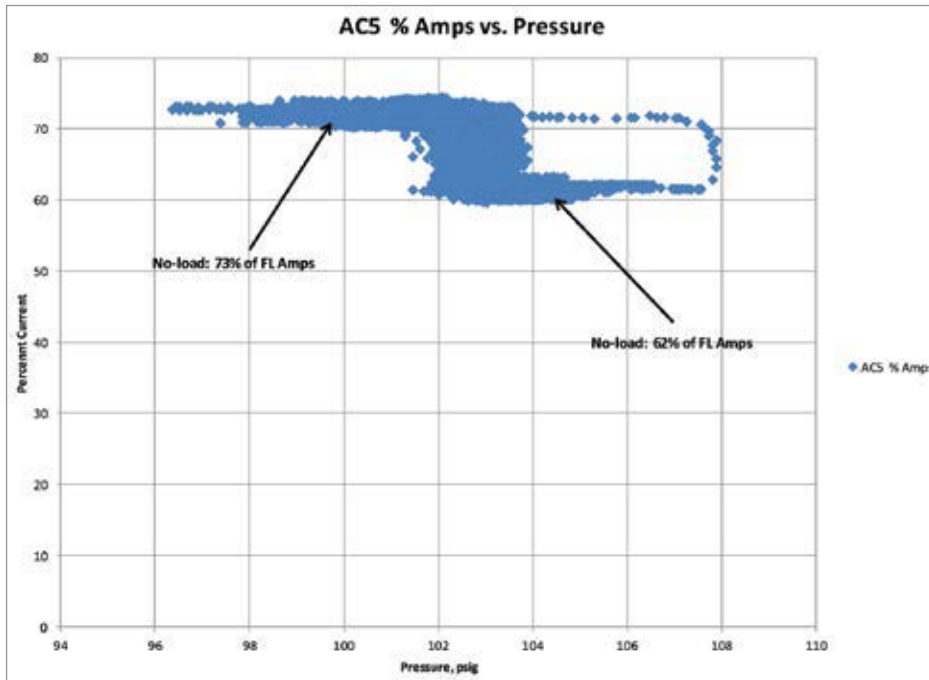

Figure 1. Load-unload Compressor Controls Plot
1. Air Compressor Amps vs. Pressure. This shows how the air compressor responds to pressure, basically an air compressor controls plot. See Figure 1 for an example of load-unload control. This came from a project where the air compressor was a centrifugal, and was in full blow-off instead of fully unloaded. No-load power was quite high, over 400 kW, and couldn’t be modified at the time. The compressors were centrifugals and would essentially blow-off instead of unload.